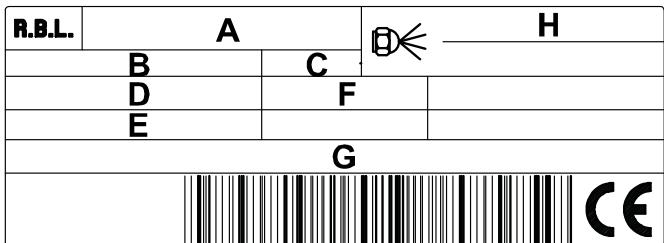

Fig. 8
- the model (**A**) (Fig. 8) and type of burner (**B**);